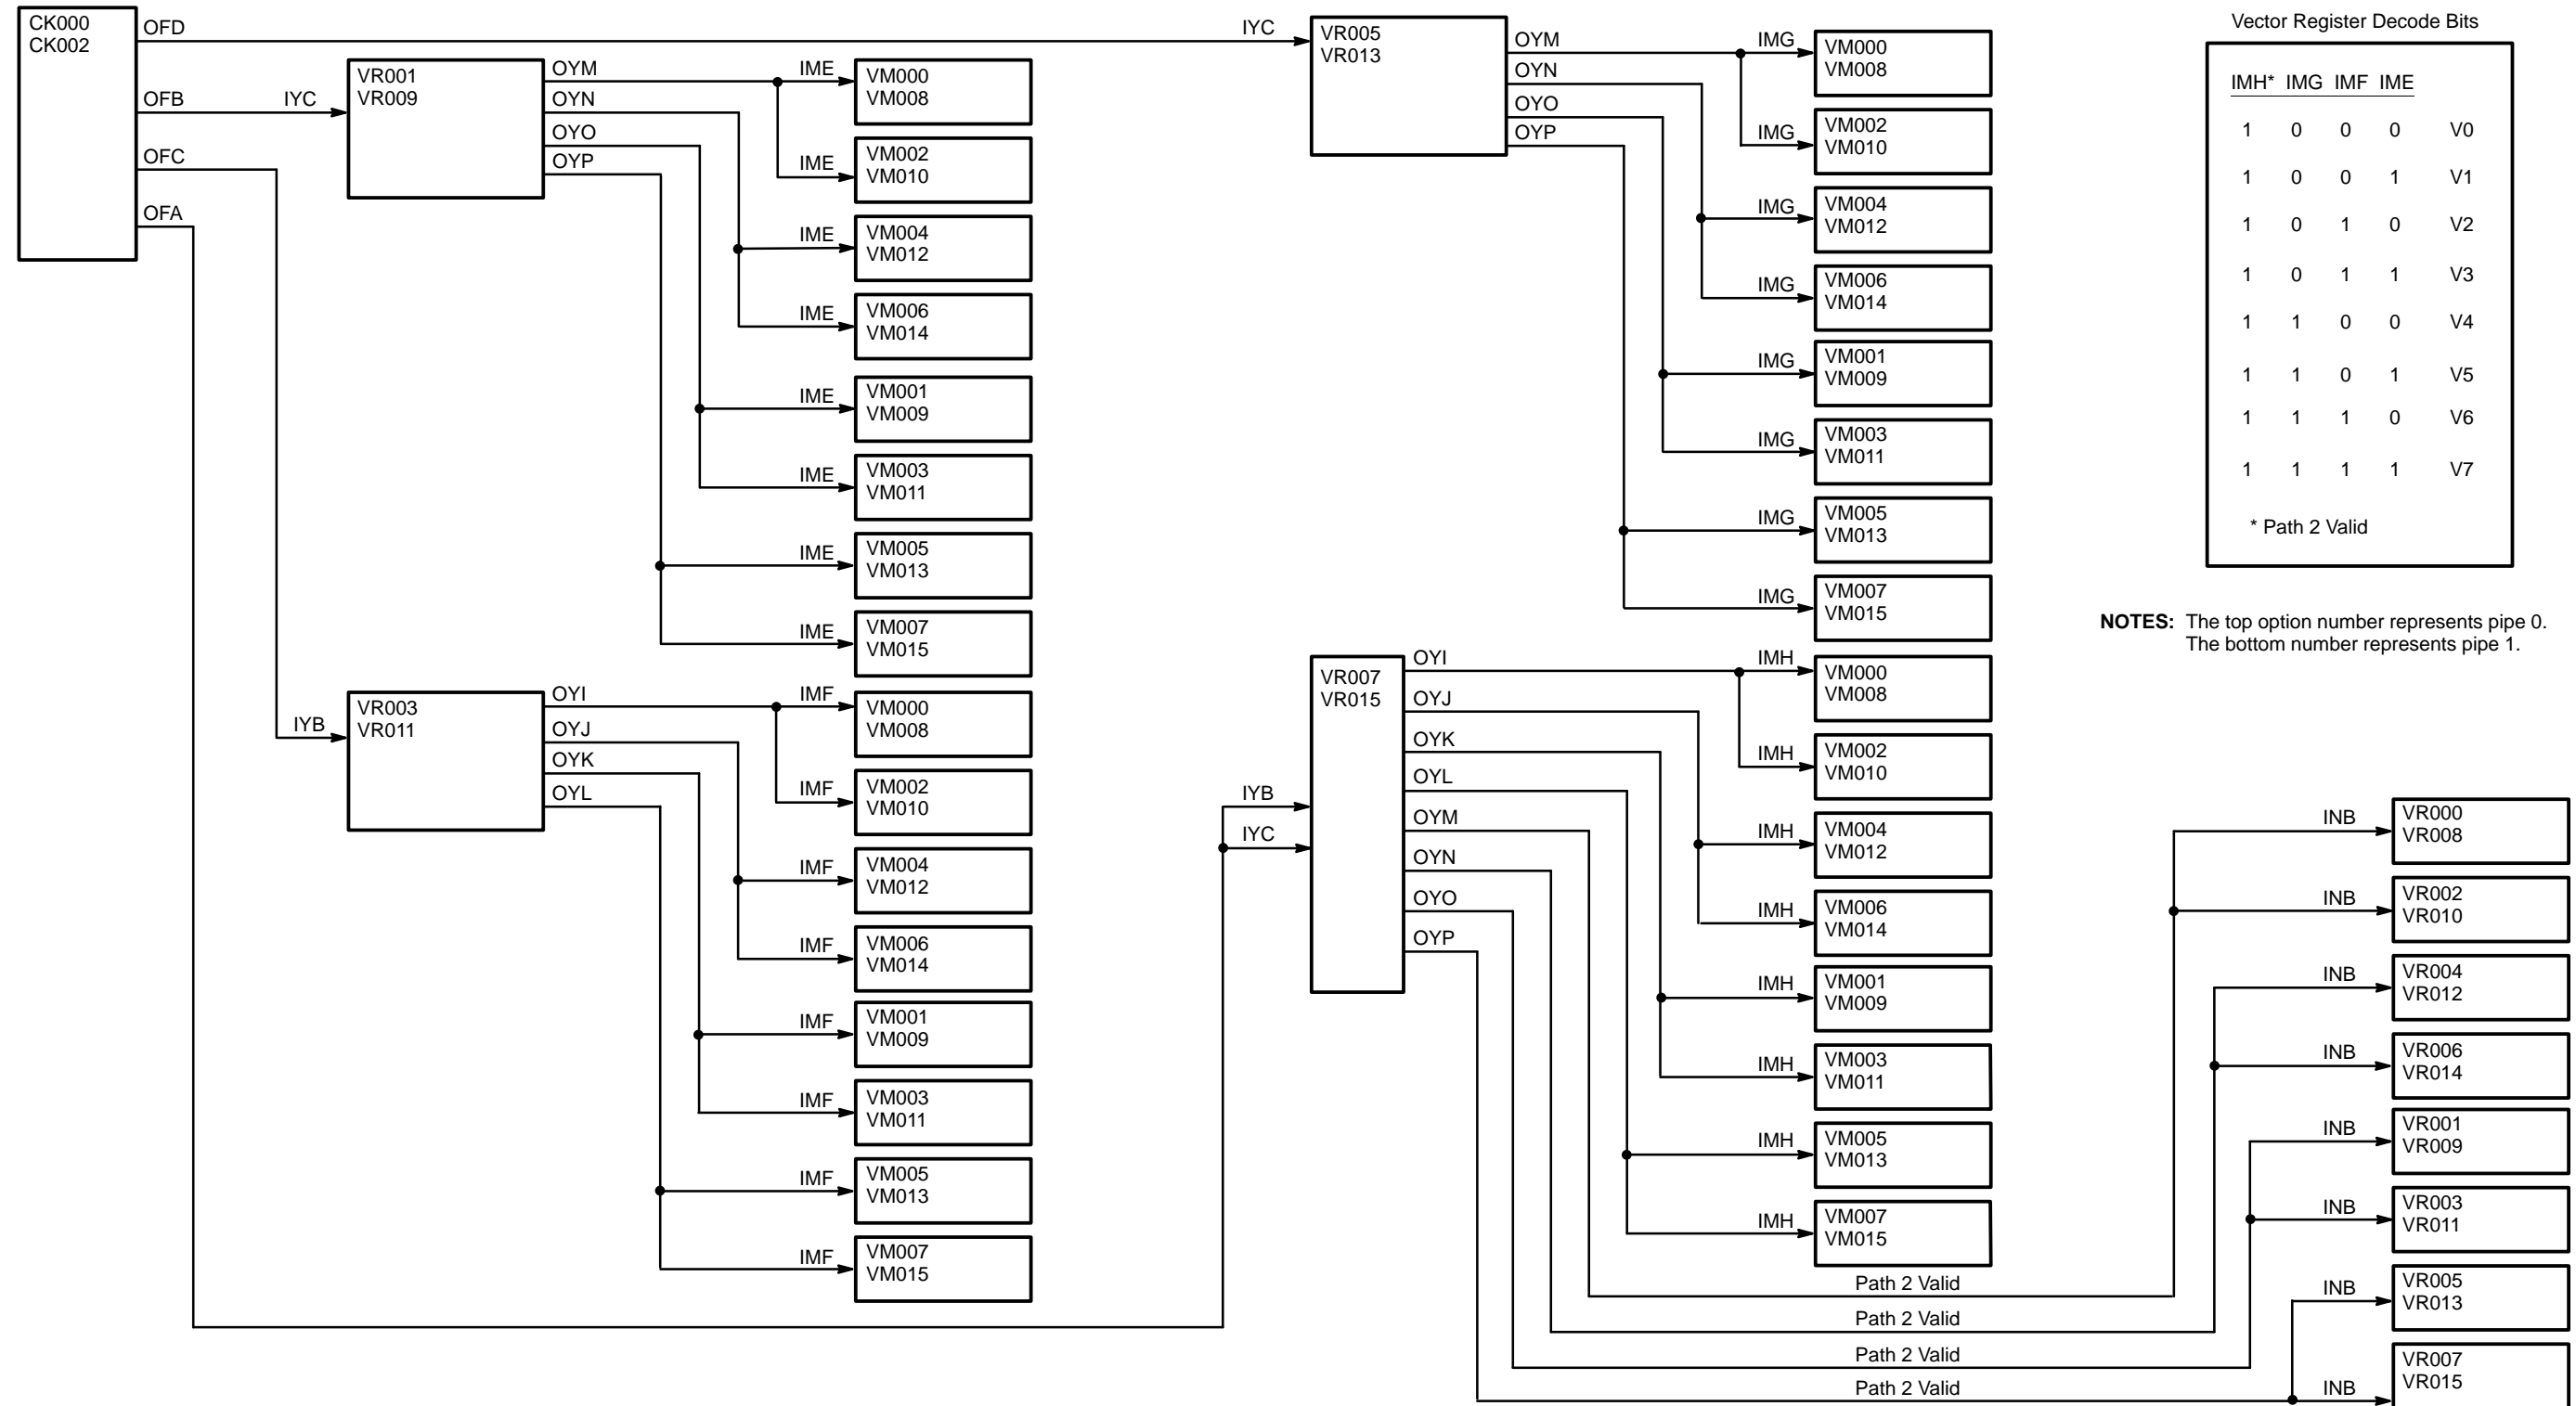

Figure 43. Vector Register Decode Bit Fanout (Pipe 0 and 1 Path 2 Only)
- Figure 43 – vector register decode bit fanout (pipe 0 and 1 path 1)